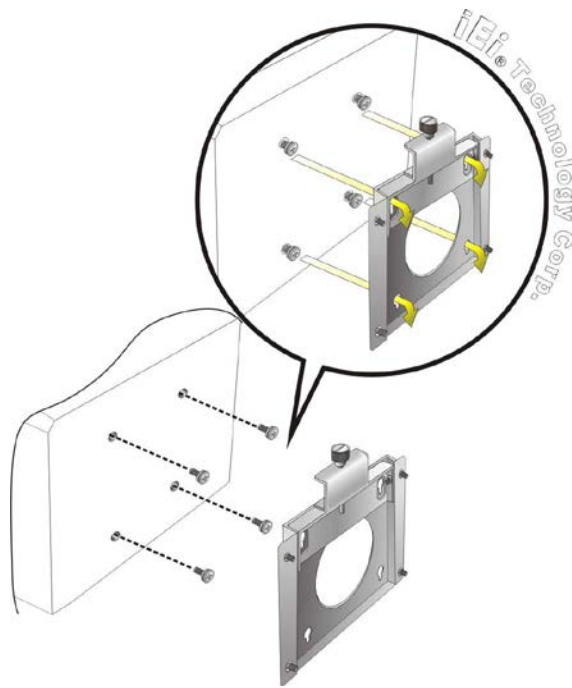

Figure 3-9: Chassis Support Screws
Step 6: Insert the four monitor mounting screws provided in the wall mount kit into the four screw holes on the rear panel of the flat bezel panel PC and tighten until the screw shank is secured against the rear panel (**Figure 3-9**).
Step 8: Carefully insert the screws through the holes and gently pull the monitor downwards until the monitor rests securely in the slotted holes (**Figure 3-9**). Ensure that all four of the mounting screws fit snugly into their respective slotted holes.